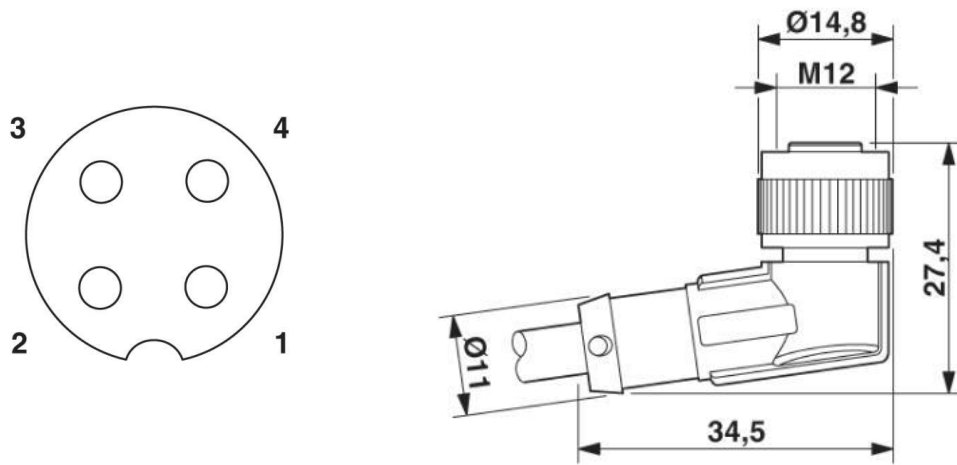

Figure 17: RT360 Rotary Table power cable
- Figure 17: RT360 Rotary Table power cable 39